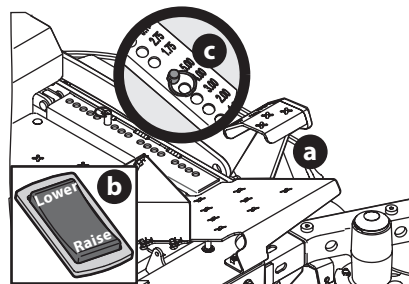

Fig. 30
1. Use the deck lift pedal (a) or push down on the back of the electric deck lift switch (b) to raise the deck to its highest position, place the clevis pin (c) attached to the mower into the desired index hole on the deck height index, then slowly release the deck lift pedal (a) or slowly lower the deck by pressing down on the front of the electric deck lift switch (b) (Fig. 30).